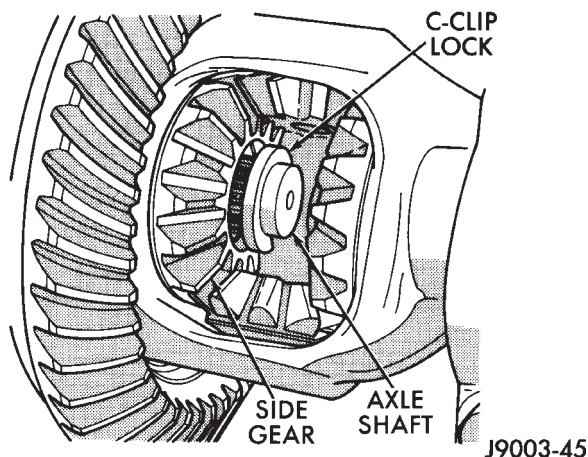

Fig. 9 Axle Shaft C-Clip Lock
(7) Push axle shaft inward and remove axle shaft C-clip lock from the axle shaft (Fig. 9).